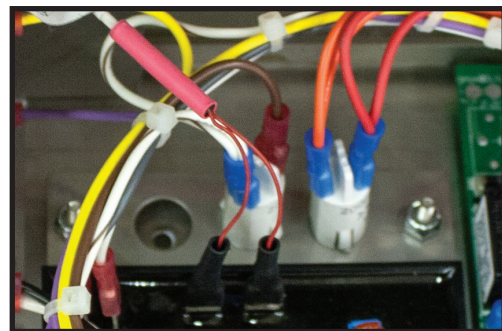

Fig 7.3B
3. Locate the light bar and remove wires from lamp (Fig 7.3B).